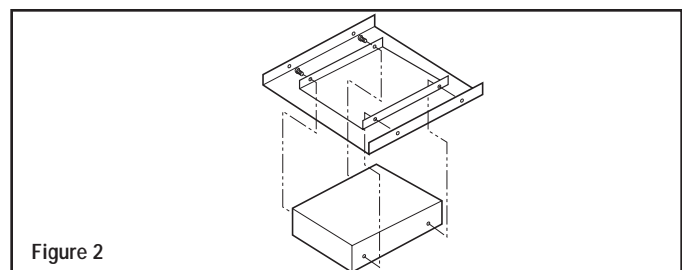

Figure 2
3. Mount the heater back box to the F-TBF kit frame using the four screws provided with kit. See Figure 2.